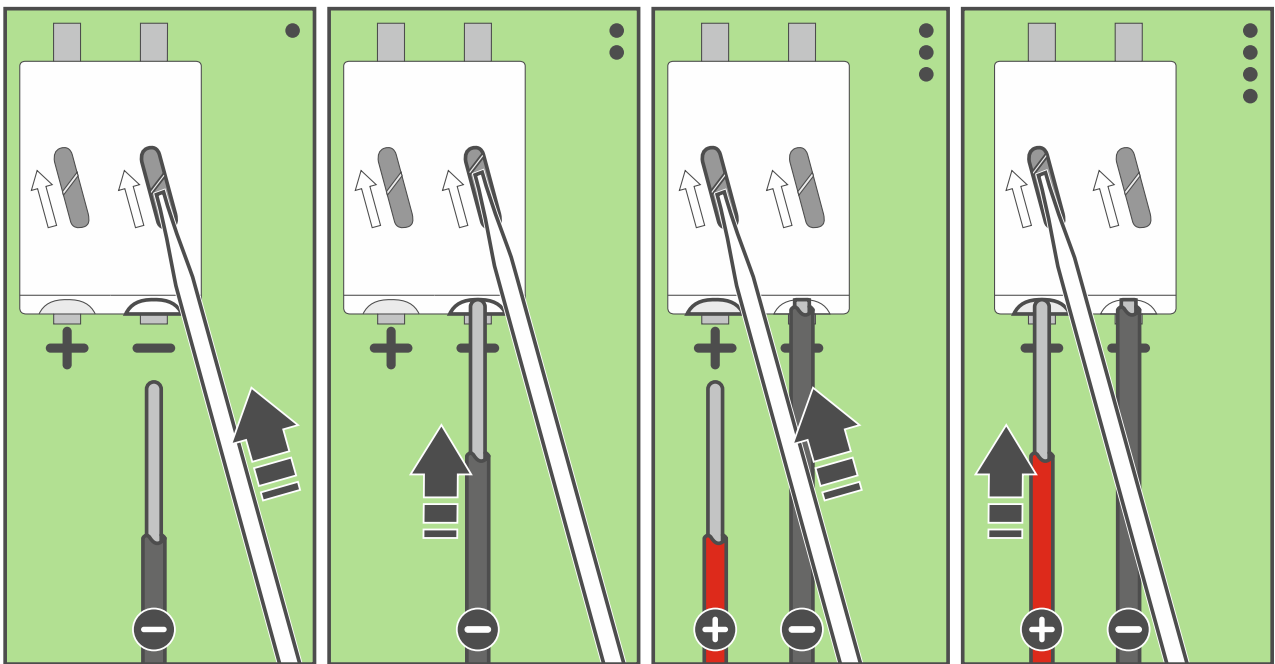

Fig. 3. Connecting the power wires.
12. If the APS-055 power supply is to be used, connect the power wires to the "+" and "-" terminals (Fig. 3). Use a 1.8 mm flathead screwdriver.